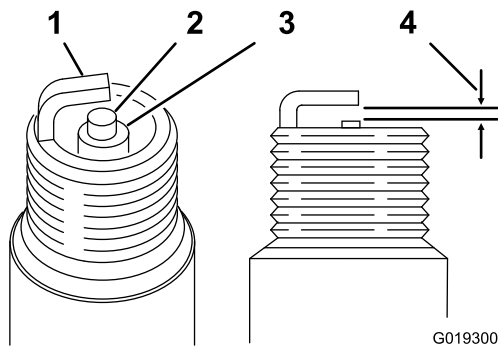

Figure 56
1. Look at the center of the spark plug (Figure 56). If you see light brown or gray on the insulator, the engine is operating properly.
2. Use a gapping tool for spark plugs or a feeler gauge to measure the gap between the side electrode and center electrode (Figure 56).